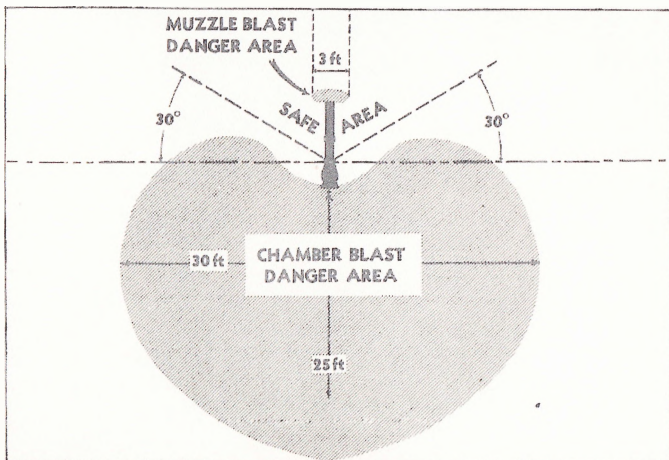

Fig. 15. Diagram showing safe and danger areas during firing.
(1) Before any round is loaded into mortar, a suitable area to rear of mortar must be clear of personnel, ammunition, or other equipment. This area may be taken as extending approximately 100 yards to the rear for practice firing and 50 yards for combat and 30 degrees forward of lateral of center of barrel (fig. 15).
(2) If firing is not immediate or rapid, employ a lanyard to retain round in the muzzle. This precaution is especially important at angles of elevation in the range of 100 to 250 mils, at which some rounds may appear stable in the muzzle and others may slide down the tube unexpectedly with sufficient force to actuate percussion primer and fire the round.
(3) All personnel in vicinity of mortar should wear ear plugs.
(4) Personnel must stay forward of a line running 30 degrees forward of lateral from middle of barrel but out of small muzzle blast area (fig. 15). When firing mortar, gunner retires quickly along such a line to reach lowest pressure region as soon as possible. He must keep well forward of center of barrel.
b. Loading. (1) Prepare ammunition as described in paragraph 41.